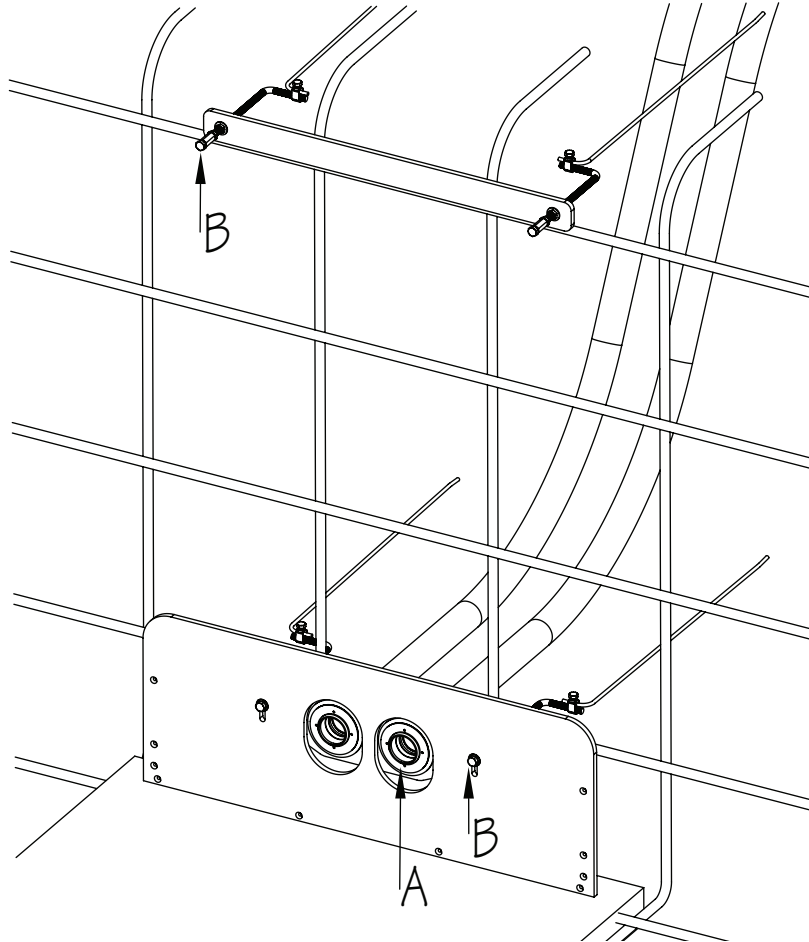

Fig. 9
6. Prior to pouring concrete, it is CRITICAL that the openings of the Star Thru-Wall Fittings (A) and Sacrificial Bolts (B) are covered. Concrete cannot be embedded in these areas (Fig. 9).